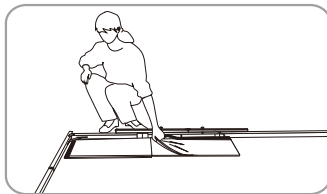

Figure 10
1. Unfold screen fabric and lay over frame ( Figure 10 - 11 ).